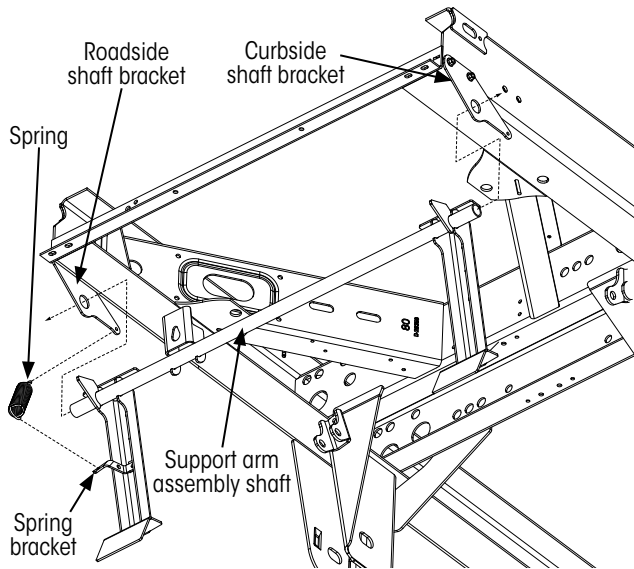

Figure 20: Support arm assembly installation
2. Insert one end of spring (Figure 20) through spring bracket hole on support arm assembly.
4. Insert roadside end of the support arm assembly shaft (Figure 20) into roadside shaft bracket.